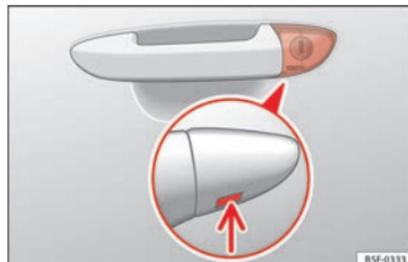

Fig. 194 Driver door lever: hidden lock cylinder.
- Insert the key shaft into the opening in the cover on the driver door handle from below » Fig. 194 (arrow) then remove the cover upwards.